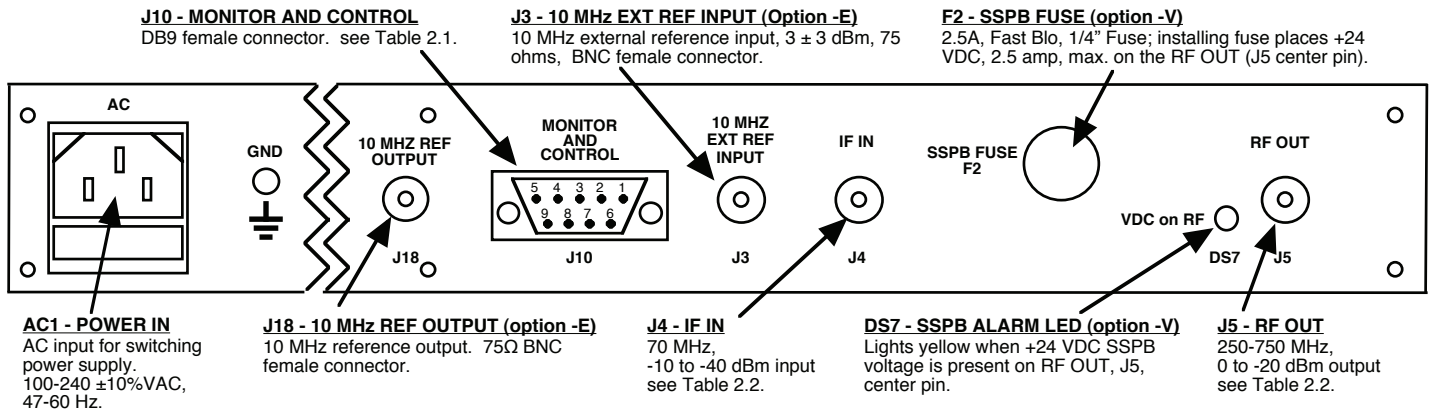

FIGURE 2.1 2015-75 Rear Panel I/O's
2.2 Rear Panel Input/Output Signals - Figure 2.1 shows the input and output connectors on the rear panel.
1. Connect a -10 dBm to -40 dBm signal to IF In, J4 (Figure 2.1).
8. Option -V only - To insert SSPB +24 VDC on the RF center pin install 2.5A fast blo fuse in F2 and check that DS7 lights yellow (Figure 2.1).